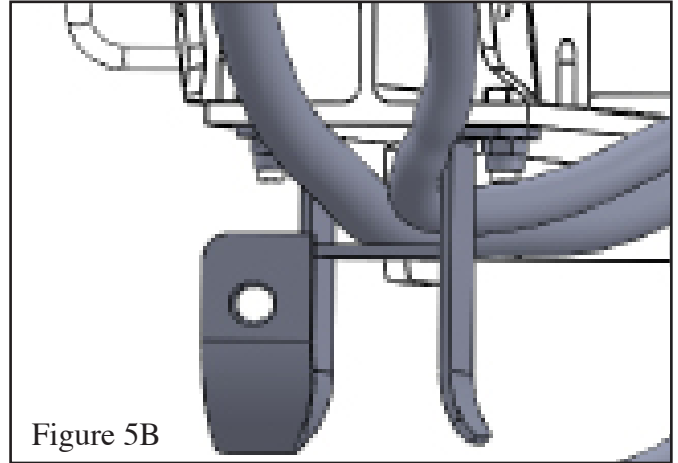

Figure 5B
2. Fasten the beam lock bracket using the included bolts and nuts. Make sure that the bracket encloses the two hoses as shown in Figure 5B (next page).